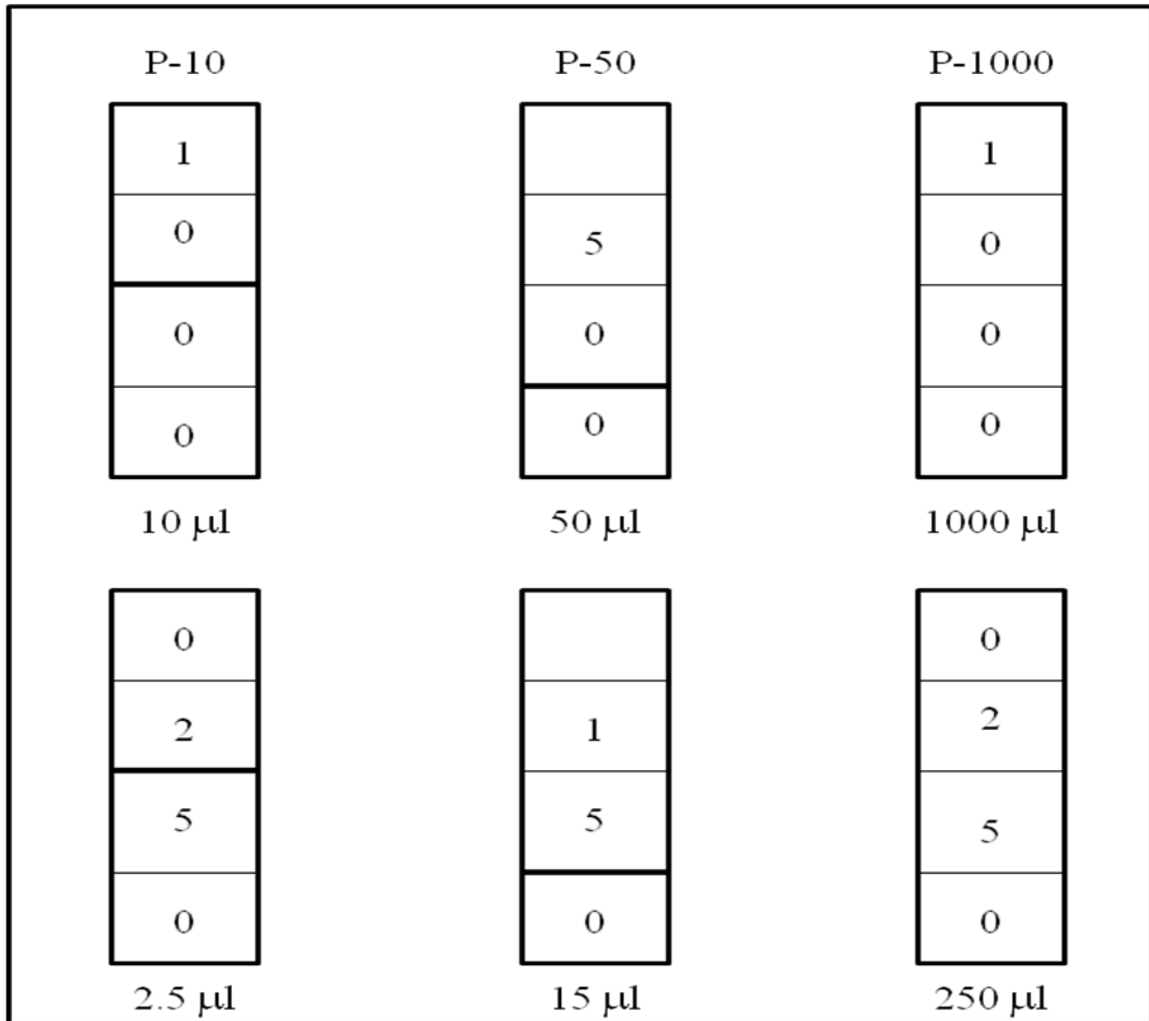

Fig. 1.3
2. To reduce the volume, turn the thumb knob clockwise. Turning the thumb knob counterclockwise will increase the volume (Fig. 1.3).